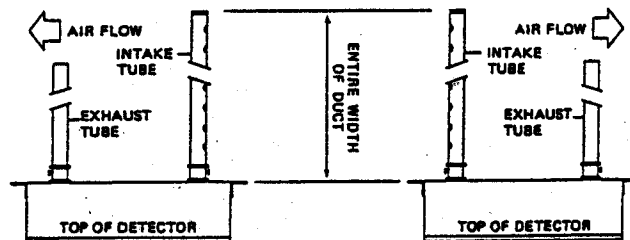

FIG. 2 SAMPLING TUBE ORIENTATION
1. The RW detectors are designed for use in ducts where the air velocities are from 500 to 4000 feet per minute. Verify this by checking specifications of installation and if necessary, use an Anlor Model 6,000P velocity meter (or equivalent) to check the air velocity. See Figure 2 for sampling tube orientation to air flow direction.
#### C. SAMPLING TUBE ASSEMBLY (See Figure 2)
The sampling tubes may be ordered to desired length or ordered in one of 3 standard lengths and cut per requirements. The intake sampling tube is a piece of steel piping with a series of holes drilled the entire length of the tube and should extend the entire width of the duct. The holes must be facing into the air flow (see Figure 2). The exhaust tube is a piece of steel piping approximately 7-1/2" long.
#### D. MOUNT SAMPLING TUBES (See Figure 2)
1. Sampling tube connectors are equipped with set screws which allow the tubes to be mounted only in directions shown in Figure 2.